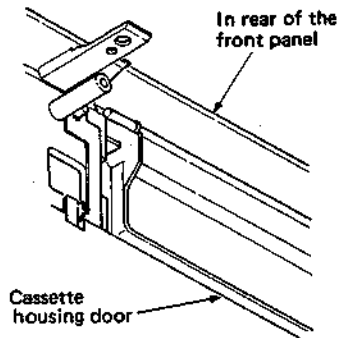

Fig. 1-1-9
2. Refer to Fig. 1-1-9, with a lift of cassette housing door by hand, bend center of the cassette housing door toward you, then pull out the left end from the cassette housing.
3. Refer to Fig. 1-1-9 and use care regarding the torsion spring, then pull out the right end of the cassette housing door to move it.